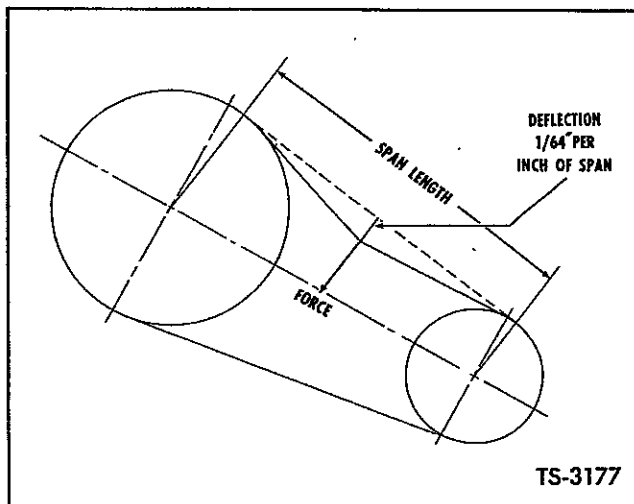

Fig. 9. Check Belt Tension
2. At the center of the span, apply force with a spring scale (at right angles to the span) large enough to deflect the belt $\frac{1}{64}$ inch per inch of span. Refer to Figure 9.